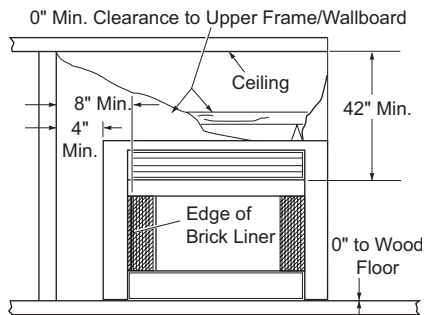

Figure 5 - Minimum Clearance Front View
- Clearances from edge of liner to any combustible wall should not be less than 8" (see Figure 5).